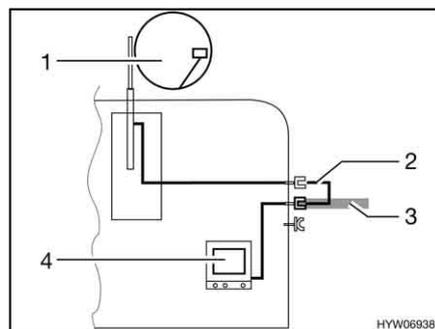

Fig. 118 TV inside the vehicle
- TV inside the vehicle (Fig. 118,4): Connection to roof antenna (Fig. 118,1) with connection cable (Fig. 118,2)
- TV inside the vehicle (Fig. 118,4): Connection to external antenna (Fig. 118,3)